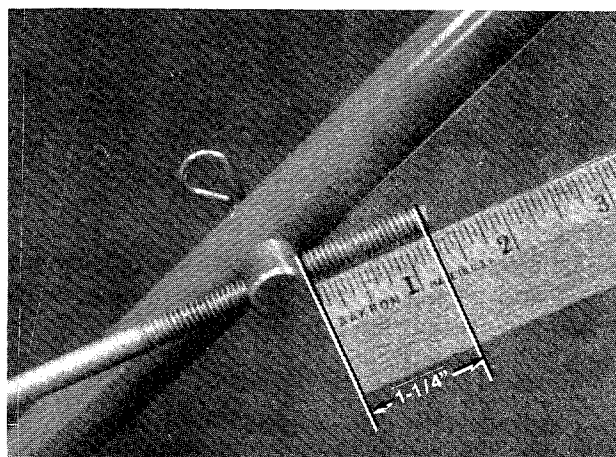

FIGURE 16
11. Figure 16 shows engagement rod setting for highest cutting height.